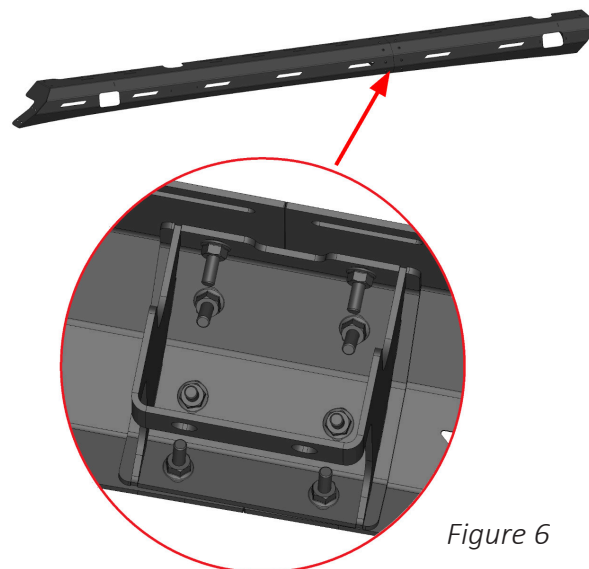

Figure 6
6. Assemble the driver side and passenger side runners using 8x M6 BHCS and 8X M6 flange nuts to fasten the 23430 mid mounting brackets to the front runners (DS 23423 and PS 23424) and rear runners (DS 23425 and PS 23426). Place a small amount of the provided 242 Loctite on each bolt before installation. Figure 6.